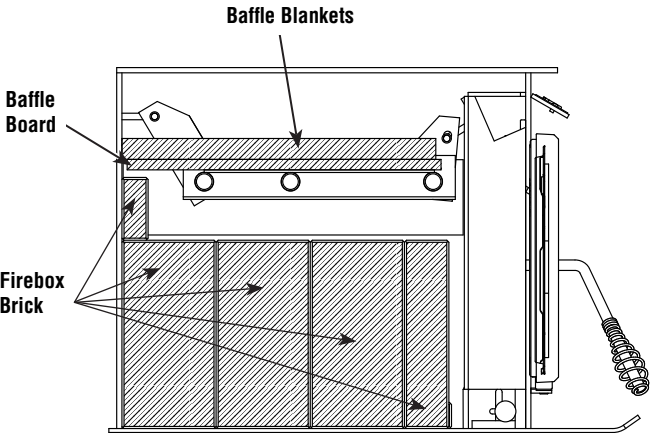

Figure 15
2. Next, you will install the baffle boards. All 4 baffle boards included are the same size. You will start by installing the boards in the center part of the unit on top of the secondary tubes to each side of the baffle support with the 15" side of the baffle board going from the front to back of the unit. Once you have the first two boards installed slide the board to the left side of the baffle support all the way to the left and rear of the unit. You will slide the board to the right side of the secondary support to the right and rear of the unit. Next you will install the two remaining boards where you originally installed the first two boards on each side of the baffle support and pushed against the rear of the unit. The stainless steel support hanger should be centered left to right between the sets of baffle boards and placed as shown in **Figure 15** on **Page 15**.